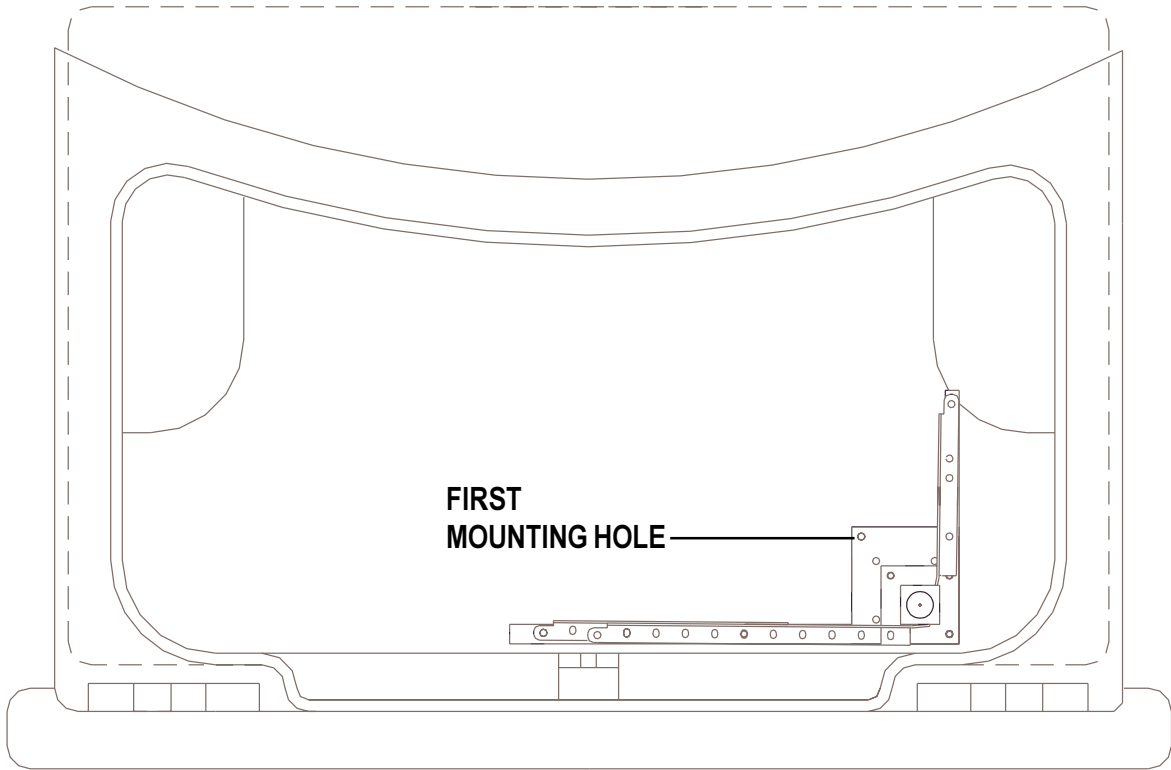

FIGURE 7.
7. Mark the position of the 6 mounting holes. Then place the partial assembly on its side outside the trunk. See figure 7.
To maximize support of the lift, these angles should be mounted to additional points of the trunk area, or they can be mounted directly to the L-base. See figures 7 and 8. Due to the compression of your carpet or floor covering, the mounting hardware should be checked for the tightness after the first use and again periodically. The application shown in illustration 7 is the recommended position.